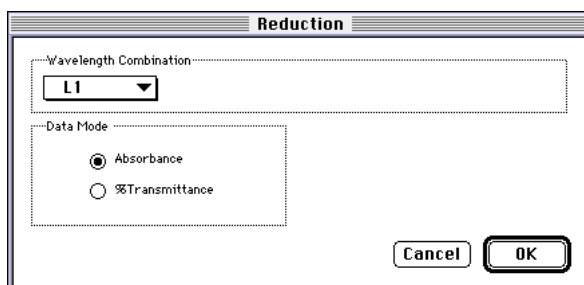

Figure 5: The Reduction dialog box
- Step 4** Click the Reduction button in the Cuvette Set or the Plate Section toolbar to display the Reduction dialog box. Set the wavelength combination to L1 and the data mode to Absorbance as shown in Figure 5.